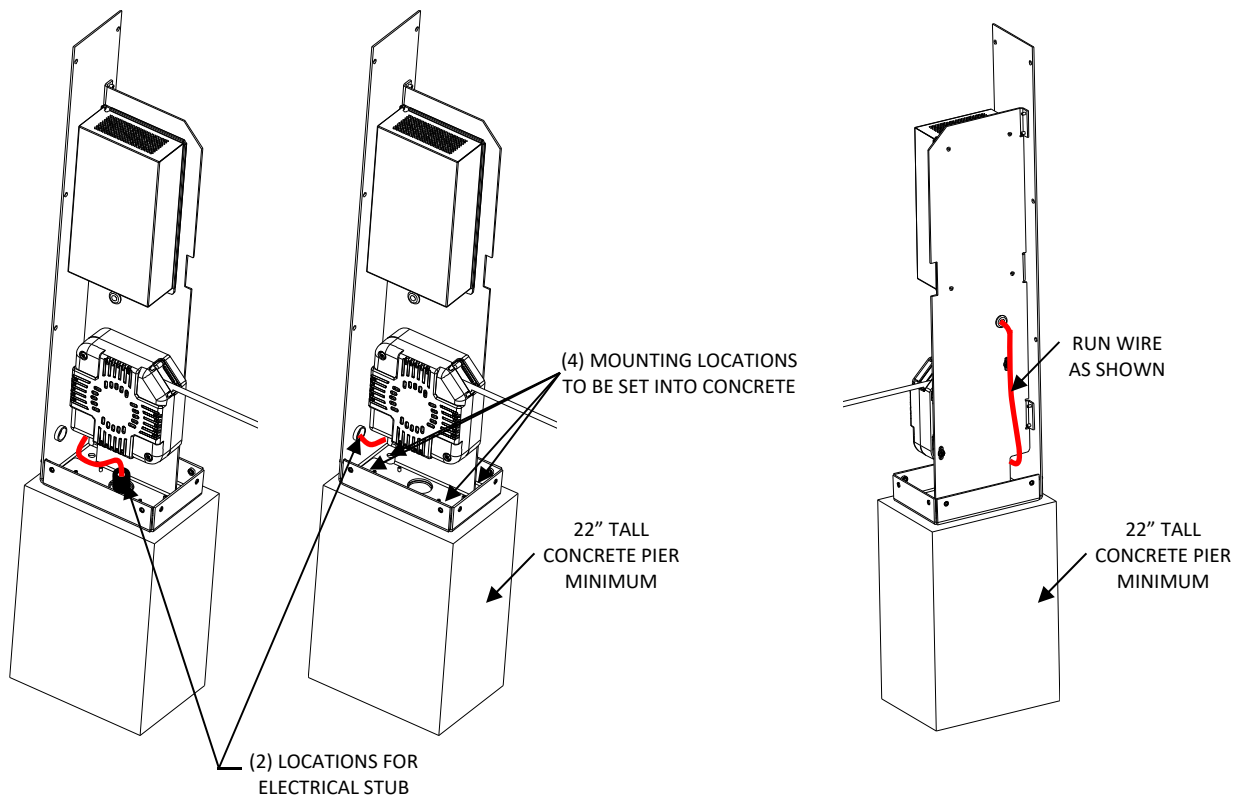
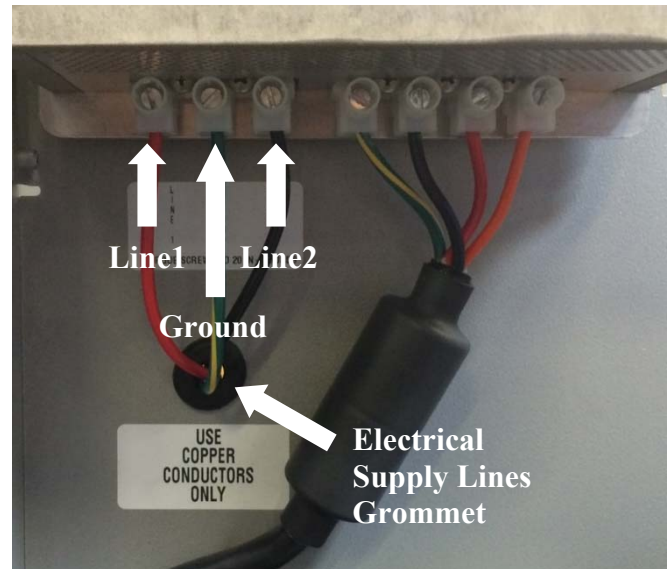

Figure 6 – Input Wiring Routing
Figure 7 – Input Wiring Termination
**IMPORTANT:** Torque fasteners to concrete anchor manufacturer's recommended torque value. (See Figure 6)
8. Feed electrical supply through either rear or bottom entry location on left of unit. If rear entry is used, secure conduit to rear housing with appropriate hardware. Feed wires from left to right of unit through bottom rear wire access hole. Route cable upwards and feed from right to left of unit through cable pass-through grommet between cord reel and circuit board. (See Figure 6 on previous page and Figure 7 below)
9. Terminate Line1, Line2, and Ground wires per Figure 7.
10. Install the 6 screws in the lower front and sides of the unit that attach the front housing to the charging base. (See Figure 6 on previous page)
<p>None of the status lights are illuminated. L2 PowerPost® EVSE does NOT charge vehicle when charge coupler is plugged in.</p>	<ul style="list-style-type: none"> • Interrupt power to the L2 PowerPost® EVSE and lock out as appropriate. Disassemble unit per steps 3-5 above. Restore supply power to L2 PowerPost® EVSE. Verify that proper supply voltage is present at the L2 PowerPost® EVSE terminal block. (See Figure 7) • Interrupt power to the L2 PowerPost® EVSE and lock out as appropriate. Verify that supply power wiring is securely terminated to incoming power terminal block. • Interrupt power to the L2 PowerPost® EVSE and lock out as appropriate. Remove incoming power fuse and verify continuity. Replace fuse if blown. • If these steps do not resolve the problem, contact Konnectronix technical support.
4. Disconnect the supply wiring and cord reel wiring from their respective terminal blocks. (See Figure 7 in the Installation section)
8. Reconnect the supply wiring to the terminal block per Figure 7 in the Installation section.